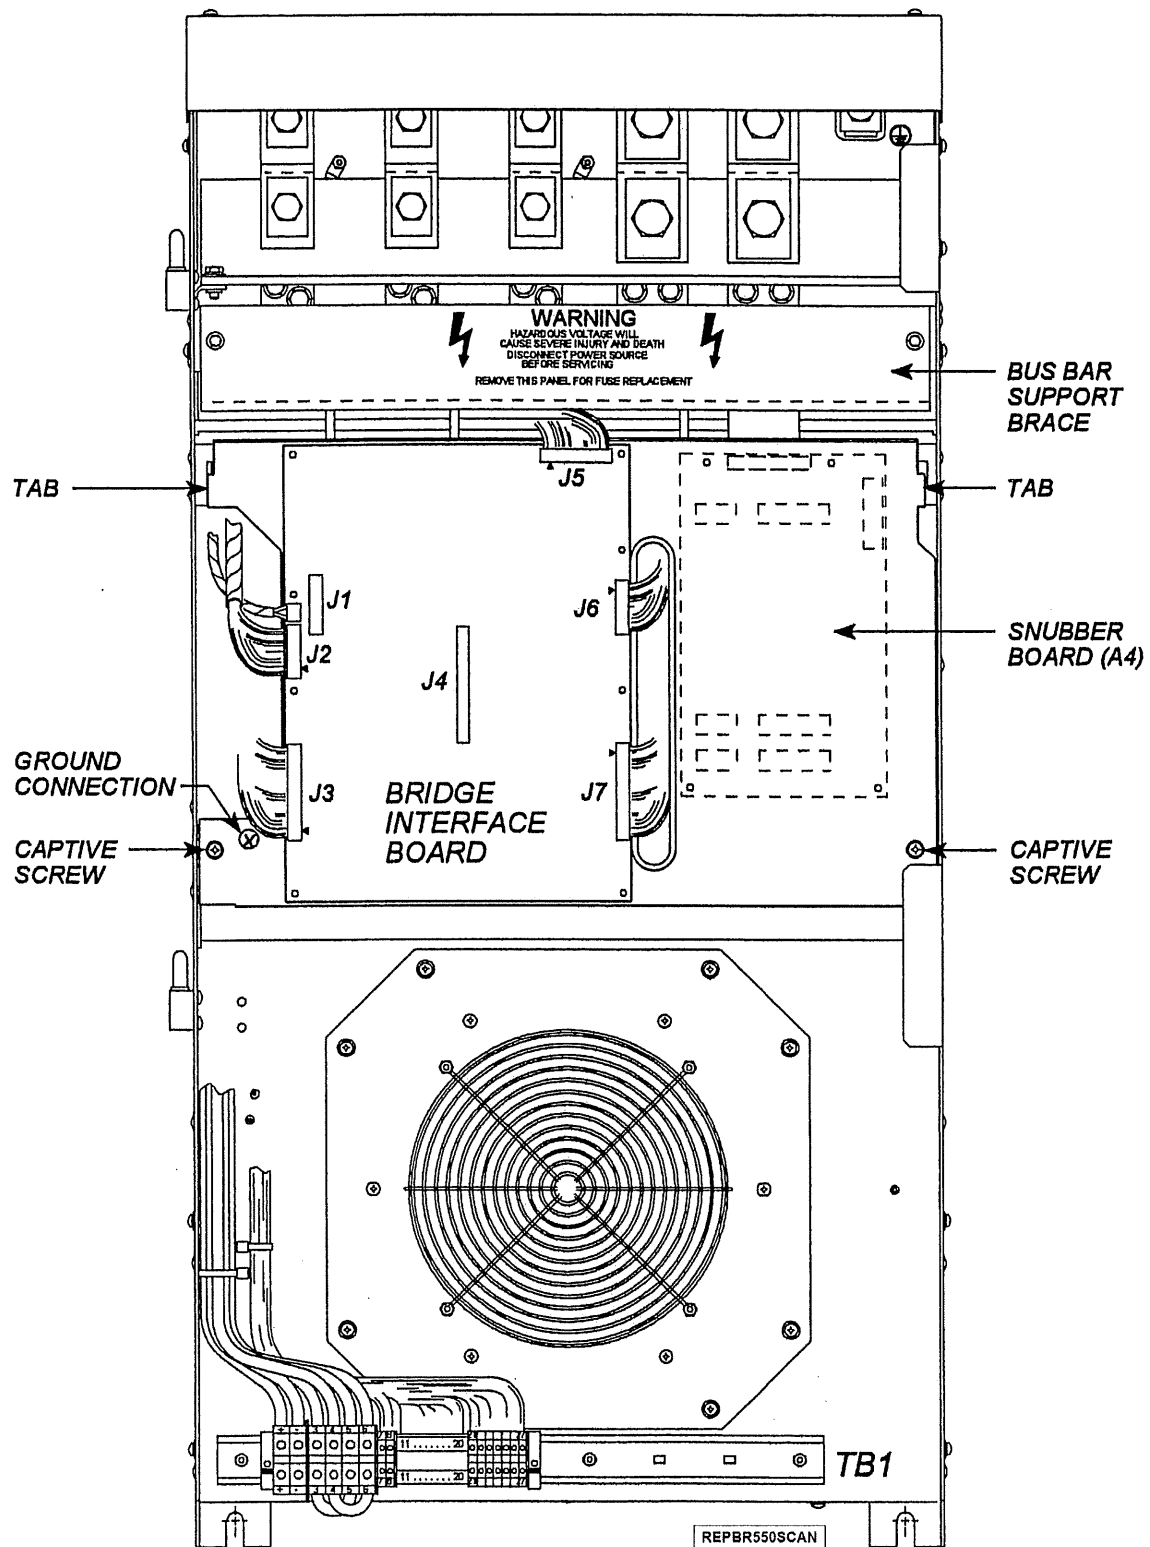

Figure 7-3. Replacing Bridge Interface Board (550 ADC)
### 7.3.4 REPLACING BRIDGE INTERFACE BOARD (A3) AND SNUBBER BOARD (A4) (550 ADC) (Refer to Figure 7-3.)
5. Remove all cables from the bridge interface board (see Figure 7-3).